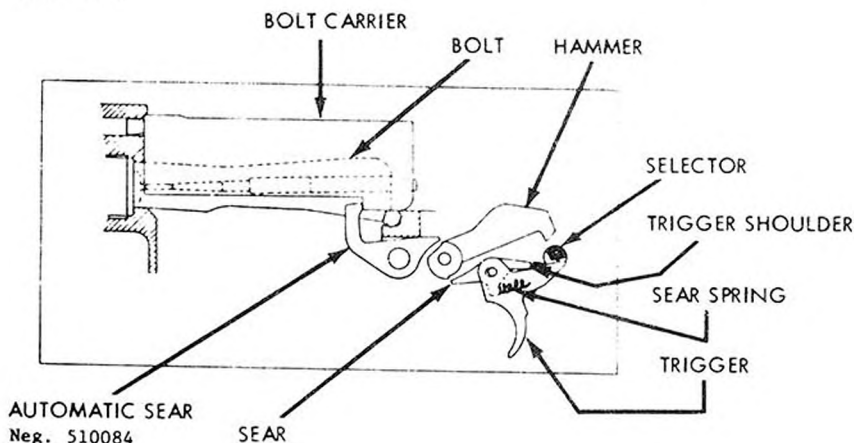

Figure 85. FN/FAL trigger.
e. The selector (fig 85) controls the type of fire by permitting different amounts of trigger travel according to the selector setting. When on safe, the solid shaft of the selector is over the rear of the trigger, and the trigger cannot be pulled to fire the rifle.
f. When the selector is set for semiautomatic fire, the trigger can be moved just enough for the sear (fig 85), which pivots about the trigger pin and is moved by the trigger shoulder, to disengage from the hammer. The hammer swings forward and the sear, under pressure of the sear spring (fig 85), moves forward and upward, against the bottom of the hammer. When the bolt carrier moves forward, the hammer, under the force of the hammer spring, starts to swing forward. The sear snaps into the sear notch of the hammer; this then forces the sear to the rear, against the shoulder, and holds the hammer cocked. To release the hammer, the trigger must be released; the hammer then forces the sear to the rear, over the shoulder. If the trigger is pressed again, it will move the sear to release the hammer.
then held cocked only by the automatic sear (fig 85). This sear is tripped by the bolt carrier during its last bit of forward travel and releases the hammer to fire another shot. This action, which occurs each time the bolt carrier goes forward, results in automatic fire. The release of the trigger causes the hammer to be caught by the sear in the same manner as in paragraph f above.
(1) The automatic sear (fig 85) will not be tripped, and it will continue to hold the hammer cocked, even if the trigger is pressed.
(2) The firing pin will not protrude through the rear wall of the carrier and cannot be struck by the hammer.